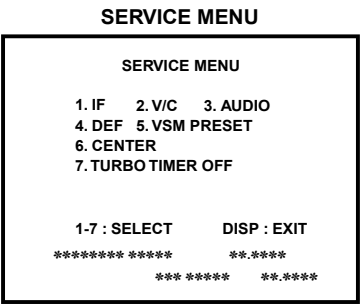

Fig. 1
- 1) Press the DISPLAY key and the PICTURE MODE key on the remote control unit simultaneously. The SERVICE MENU screen will be displayed. (See Fig. 1.)